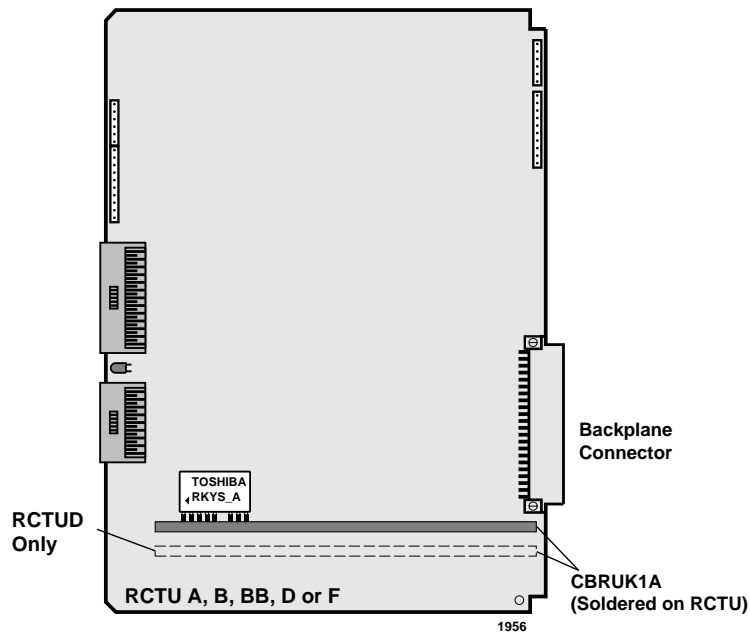

Figure 5-30 RKYS Feature Key Installation
- Insert the RKYS into the socket on the appropriate RCTU PCB (see Figure 5-30).